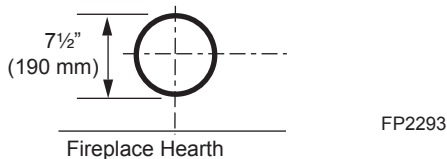

Figure 16 - Locate vent opening on wall
Locate vent opening on the wall. It may be necessary to first position the fireplace and measure to obtain hole location. Depending on whether the wall is combustible or noncombustible, cut opening to size. *Figure 16* (For combustible walls first frame in opening.)
Combustible Walls: Cut a 9 5/8" H x 9 5/8" W (244 x 244 mm) hole through the exterior wall and frame as shown. *Figure 16*
1. Establish vent hole through the wall. *Page 17, Figure 16*